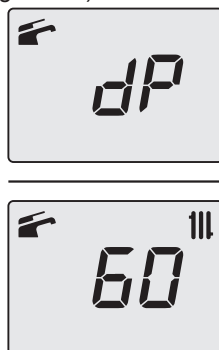

Fig. 10.25
- Press further key 13 to vary again the output in flue sweep mode: when the LCD display displays the letters **dP** that alternate with the heating water temperature value (e.g.**60**), the "flue sweep function" is at maximum output in domestic hot water mode (Fig. 10.25).